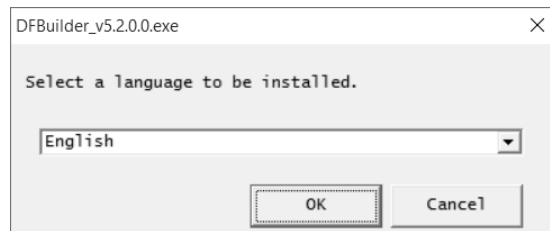

Figure 1.1.1 Selecting the language
1. When double-click the downloaded installer, a dialog of Figure 1.1.1 appears. Select the language that you use the DebugFactory Builder 5.